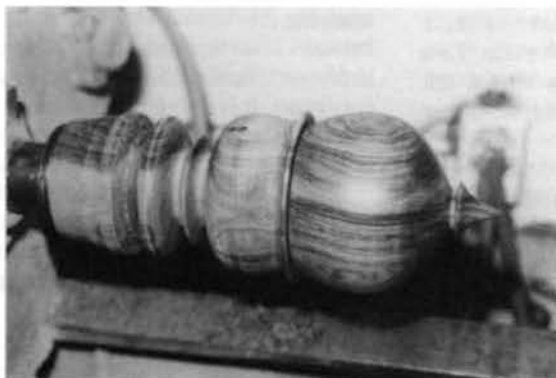

Figure 4. Shape the base and fit the top into the groove.
10. Bring the pedestal blank to round, and drill a 3/8-inch hole, 3/4 inch deep for the inside of the thimble (Figure 4).